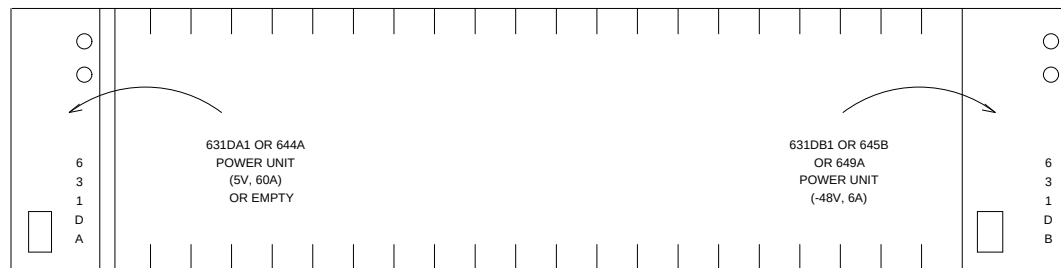

Figure 12-30. Locations of Power Units
13. Install the new power units into the "B" carrier. There are two different pairs of power units available. They are the 631DA1 and 631DB1 (for AC power), and the 644A and 645B (for DC power). Do not interchange the units. The 631DA1 or 644A is installed on the left side, while the 631DB1 or 645B is installed on the right side (see Figure 12-30).